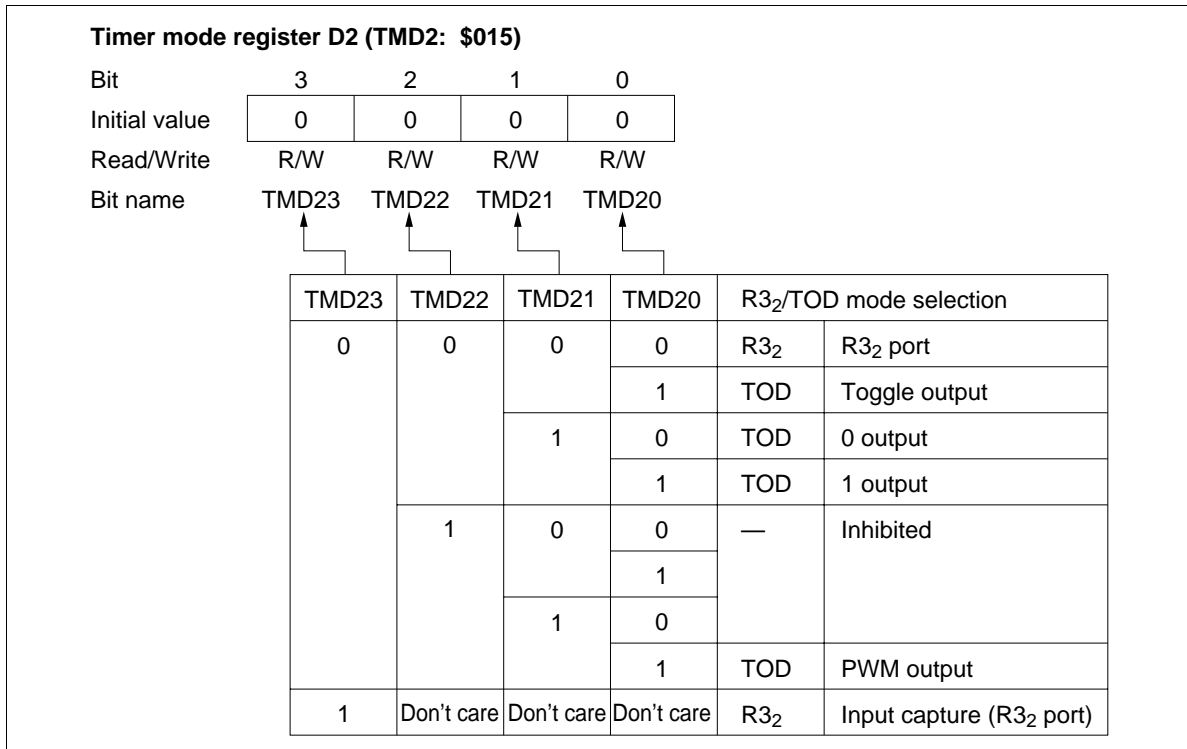

Figure 45 Timer Mode Register D2 (TMD2)
- Timer mode register D2 (TMD2: \$015): Four-bit read/write register that selects the timer D output mode and input capture operation as shown in figure 45. It is reset to \$0 by MCU reset.